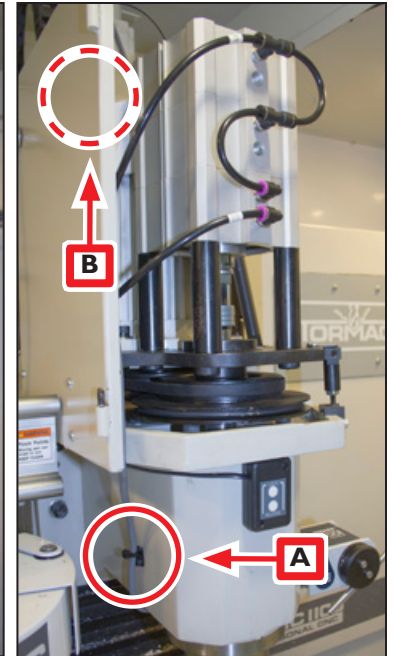

Figure 8
3. Using two zip ties and two zip tie mounts, secure control cable from SmartCool Head Unit to mill in locations A and B as shown in **Figure 8**.